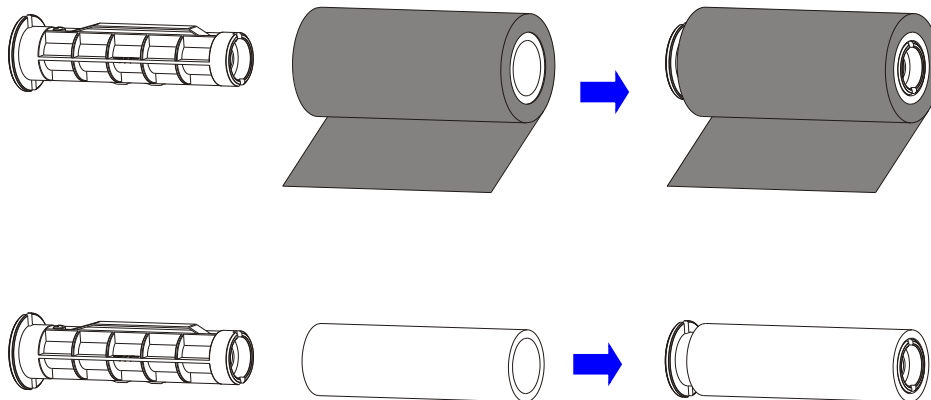

Figure 2-6 Place Ribbon Roll and Spare Core on Ribbon Spindles
4. Slide the ribbon roll onto one of the Ribbon Spindles and place the spare core onto the other spindle, see Figure 2-6. Make sure that the ribbon roll and the spare core are center aligned on the Ribbon Spindles.